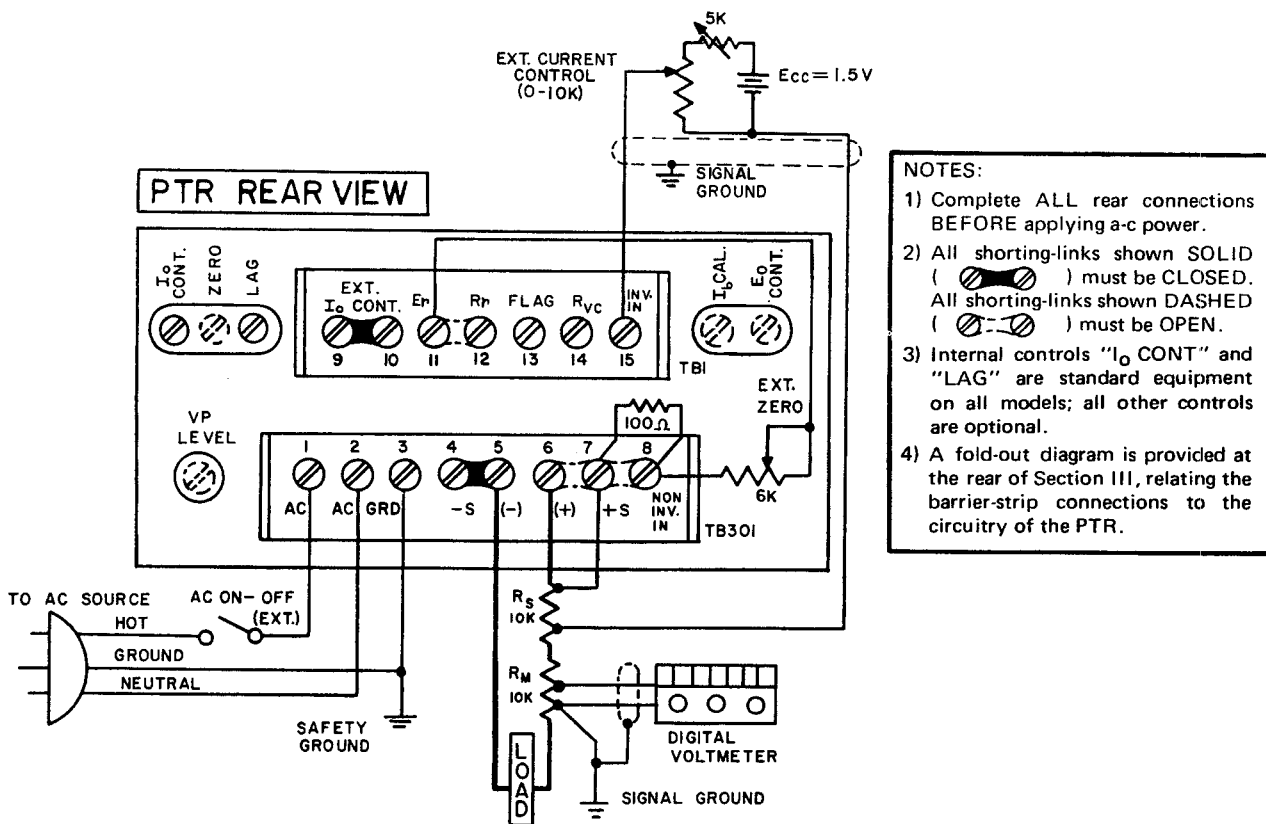

FIG. 3-12 CONNECTIONS FOR EXTERNAL SENSING AND VOLTAGE CONTROL ( $I_o$  max. = 100  $\mu$ A).
- 3-56 EXAMPLE II. A PTR model is used to deliver stabilized output current from 0 to  $100\ \mu\text{A}$ . The actual connecting pattern for the circuit with external sensing and voltage control is illustrated in FIG. 3-12. Connect all components as shown in FIG. 3-12, locating the sensing resistor as close as possible to the power supply. The leads connecting the control voltage ( $E_{CC}$ ) must be shielded, with the shield (single-ended) connected to the common signal ground point. This ground point must be selected carefully, to avoid possible ground-loop effects. Note: PTR Power Supplies have an internal "signal ground" consisting of a resistor/capacitor, series connected from the negative output terminal to the chassis. This signal ground must be removed for the connection shown in FIG. 3-12. Refer to Section II (par. 2-8) of this manual.
3-57 CALIBRATING THE OUTPUT. With the external control voltage ( $E_{CC}$ ) set to zero, the current output from the PTR should be zero. A small offset may, however, be observed on the output meter. This offset can be set to zero with the internal "zero" control (R12—on PTR models with suffix "E") or by an external zero control consisting of a voltage divider, connected from the internal reference source ( $E_r$ ) to the noninverting input (refer to FIG. 3-12, delete external control if an "E" option PTR is used). The maximum output current value must be calibrated at the control voltage ( $E_{CC}$ ), or with an external rheostat, as shown in FIG. 3-12.